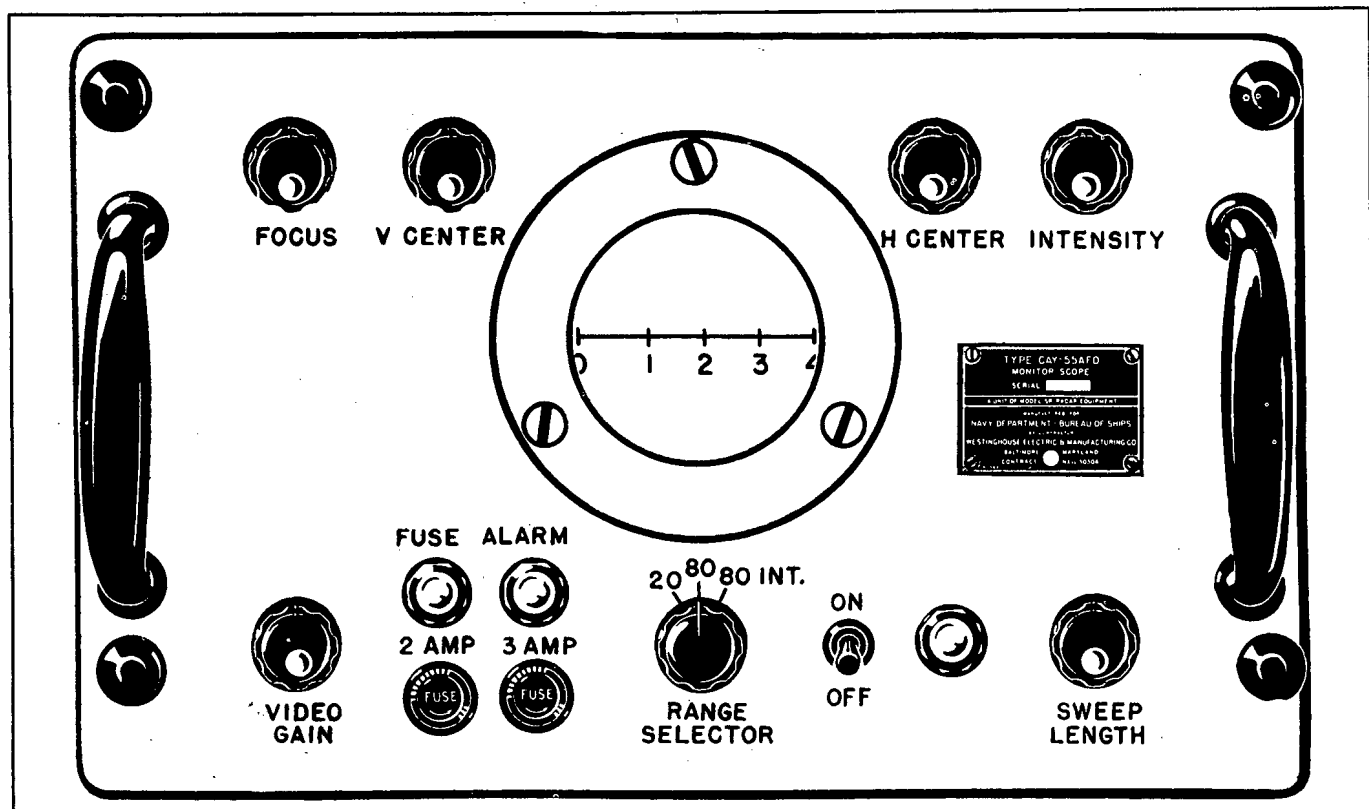
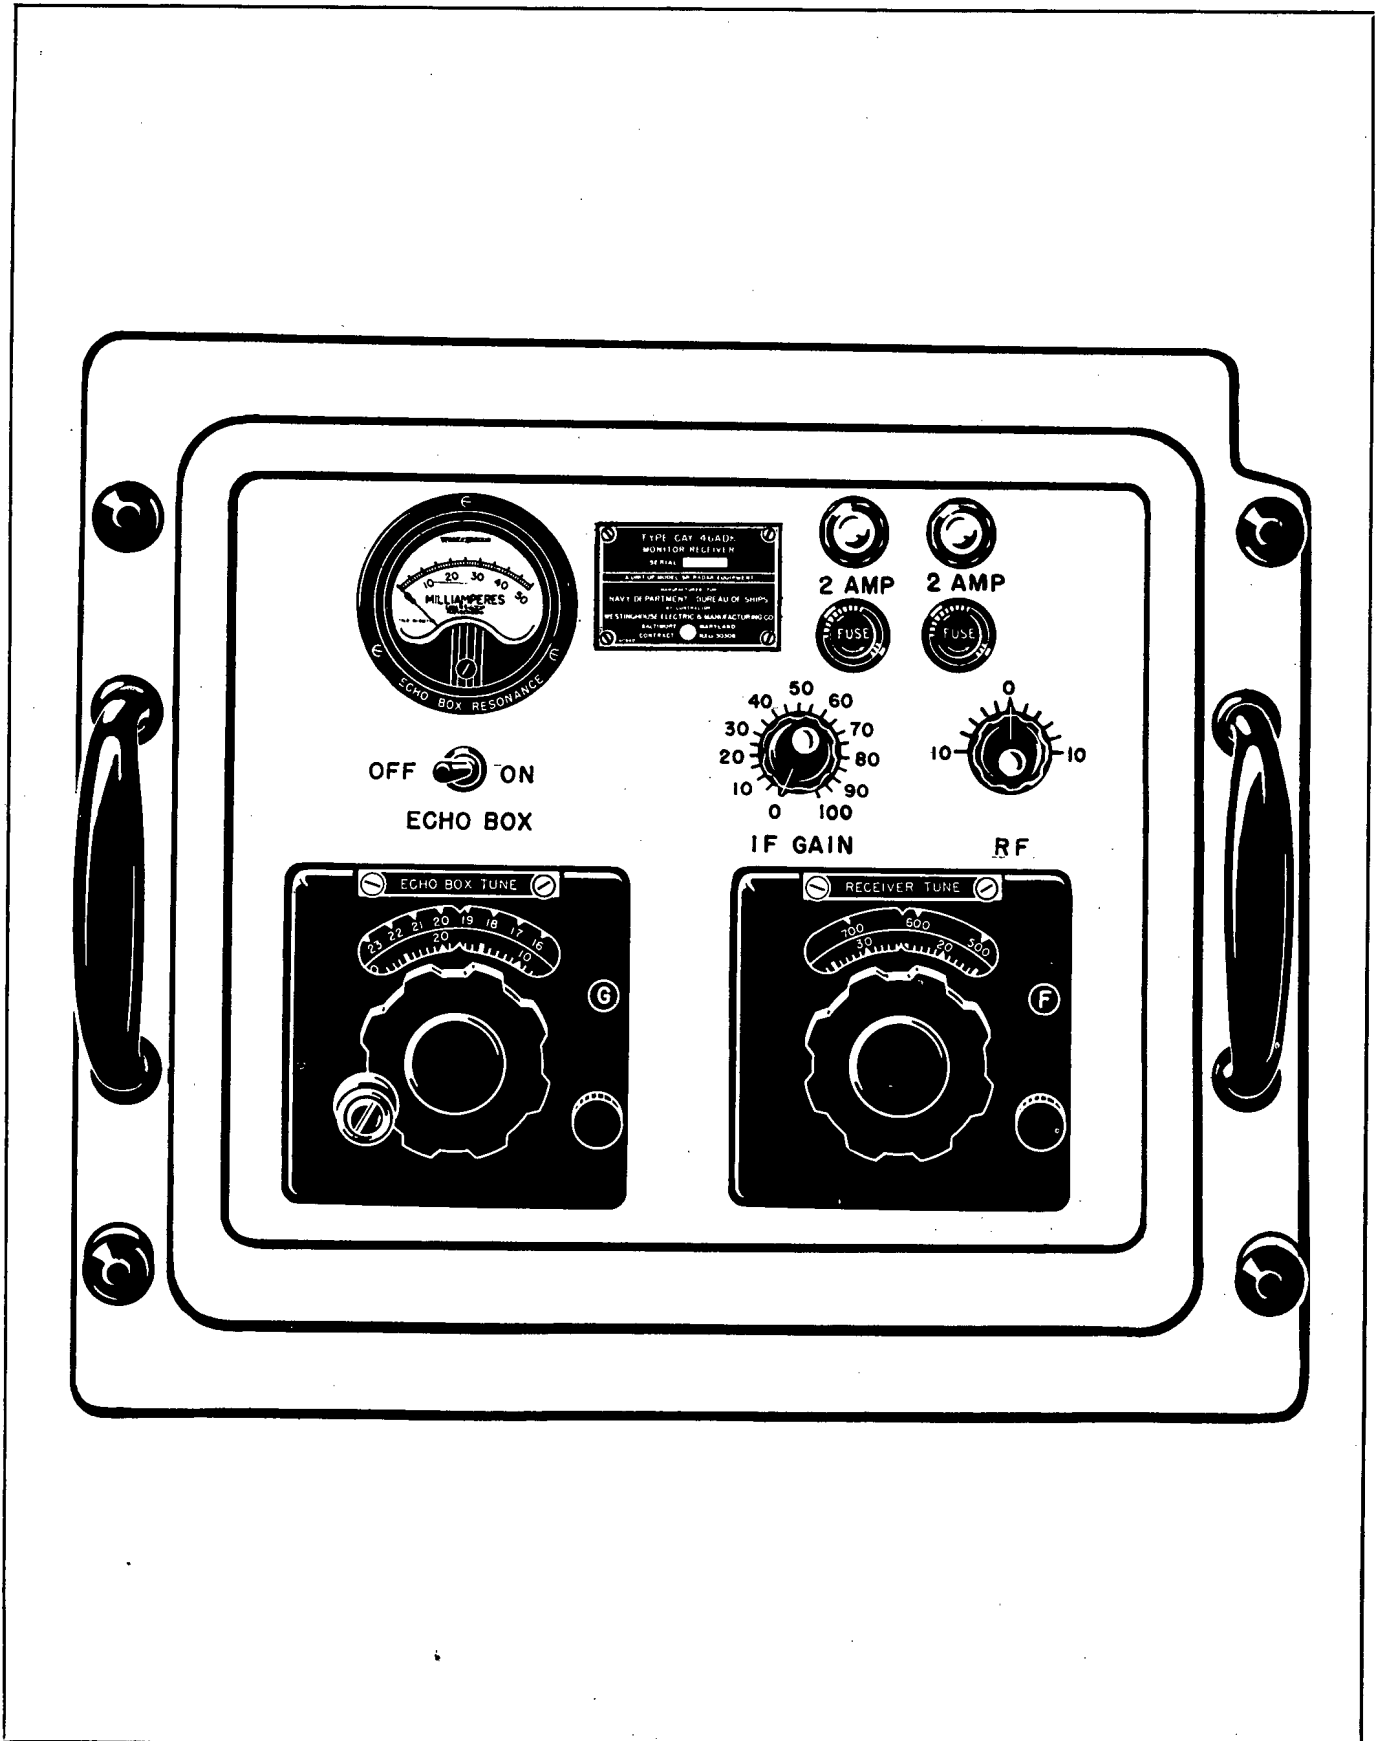

Figure 4-5. Monitor Scope, Operating Controls
Figure 4-10. Monitor Receiver, Operating Controls
(7) Place the ON-OFF switch on the Monitor Scope in its ON position. This switch is shown in Fig. 4-5.
(10) Place the RADIATION switch S-108 in its ON position. The indication on the PLATE VOLTAGE meter M-103 should increase to 11 kilovolts and the TRANSMITTER ON lamp I-402 on the General Control Unit should glow.
(11) Place the ON-OFF switch S-201 on the Monitor Receiver in its ON position. See Fig. 4-10.
(1) Adjust the FOCUS control R-331, and the INTENSITY control R-328 alternately for best definition and clarity of the sweep. These controls are shown in Fig. 4-5.
(2) Referring to Fig. 4-5, adjust the V CENTER control, R-324, until the sweep on the Monitor Scope coincides with the etched line.
(3) Adjust the H CENTER control R-322 until the start of the sweep coincides with the zero etched on the screen. See Fig. 4-5 for the location of this control.
(4) Adjust the SWEEP LENGTH control R-313 until the sweep length is equal to the length of the etched line.
(5) Place the RANGE SELECTOR switch S-301 in its 20 position.
(6) Adjust the RECEIVER TUNE CONTROL (F) and the R.F. control on the Monitor Receiver for best appearance of targets on the Monitor Scope. See Fig. 4-10. Adjust the VIDEO GAIN control R-342 for the desired amplitude on the Monitor Scope.
(7) Adjust the I.F. GAIN control on the Monitor Receiver for approximately one-quarter to one-half inch grass on the Range Scope in the Indicator Console. See Fig. 4-10.